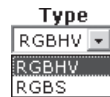

Figure 6-11 — Type drop box
1. Click in the Type field. A drop-down box appears (figure 6-11).